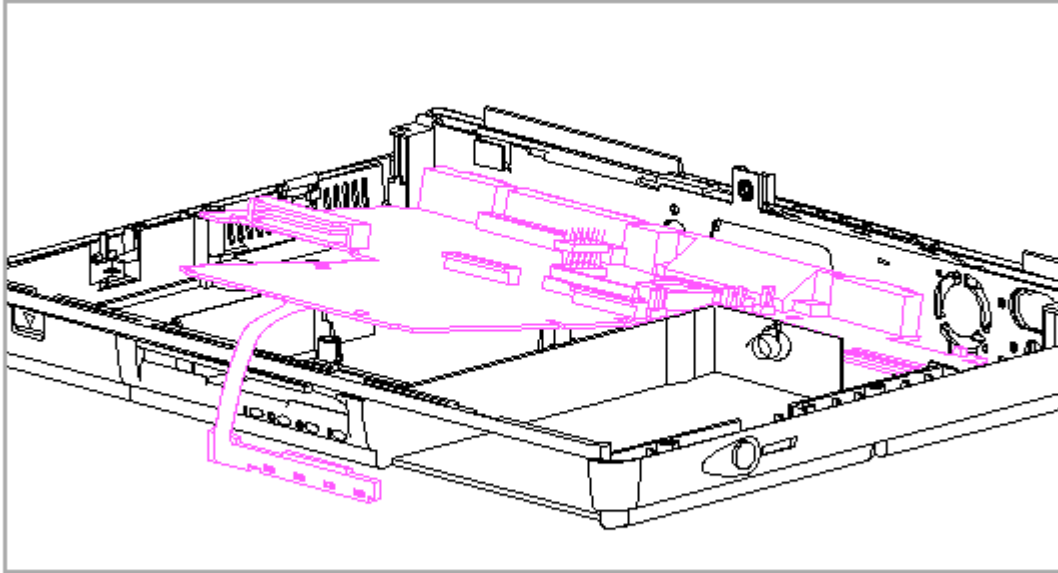

Figure 4-52. Partially Installing the System Board
2. Partially install the system board so that the connectors on the back of the board fit into the I/O bracket. Keep the front edge of the system board raised to allow access to the LED cable assembly bracket (Figure 4-52).